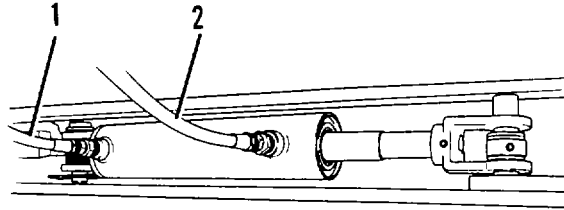

Figure 3-39.1. Steering Cylinder Hoses.
- (10) Attach the cylinder hoses (1 and 2, Figure 3-39.1) to the cylinder ports using the identification tags. Use two wrenches to tighten the fittings.
- (11) Start the SPEMS and turn the wheels fully to the left (left hand turn). Loosen the fitting closest to the cylinder rod 1/4 turn to vent entrapped air; then tighten the fitting.
- (12) Turn the wheels fully to the right (right hand turn). Loosen the fitting farthest from the cylinder rod 1/4 turn to vent entrapped air; then tighten the fitting.
- (13) Repeat steps 10 and 11 until no air remains in the cylinder. Check hydraulic reservoir level and refill if necessary. Refer to para 3-6, Lubrication.
- (14) Perform operational check for proper function.